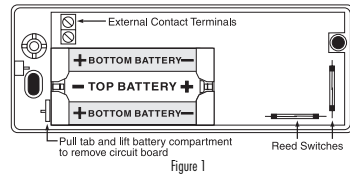

Figure 1
1. Observe the correct polarity (see Figure 1).